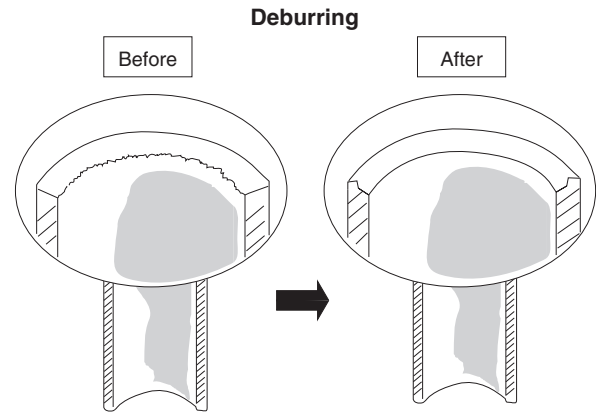

Fig. 5-1
- (1) Cut the copper tube to the required length with a tube cutter. It is recommended to cut approx. 1-2 ft. (30 – 50 cm) longer than the tubing length you estimate.
- (2) Remove burrs at each end of the copper tubing with a tube reamer or file. This process is important and should be done carefully to make a good flare. Be sure to keep any contaminants (moisture, dirt, metal filings, etc.) from entering the tubing. (Figs. 5-1 and 5-2)